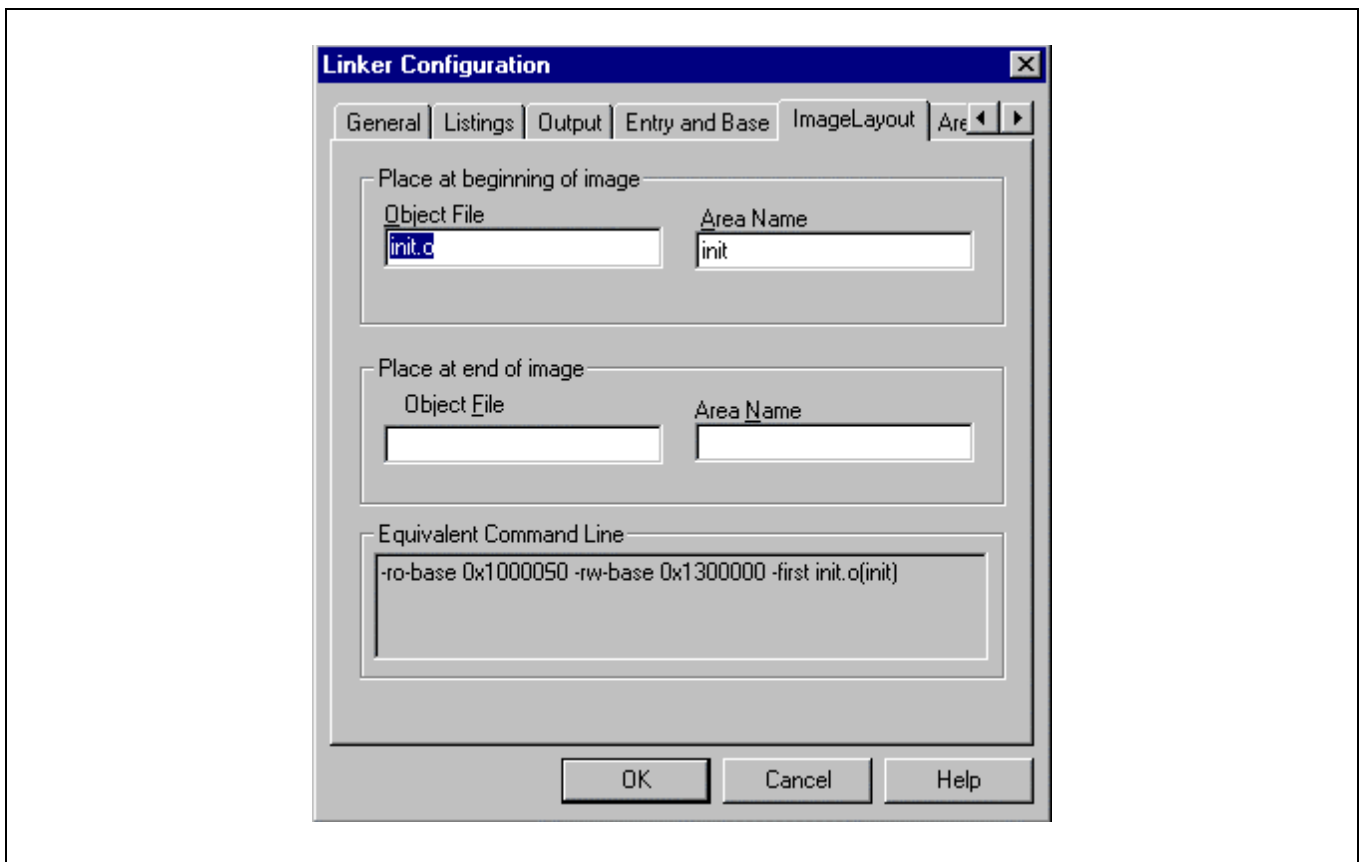

Figure 2-14. Linker Configuration: Image Layout Page
5. Modify ImageLayout page on Linker Configuration dialog box (Figure 2-14).